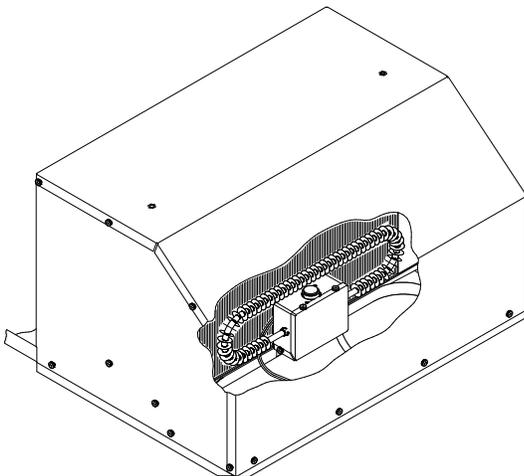
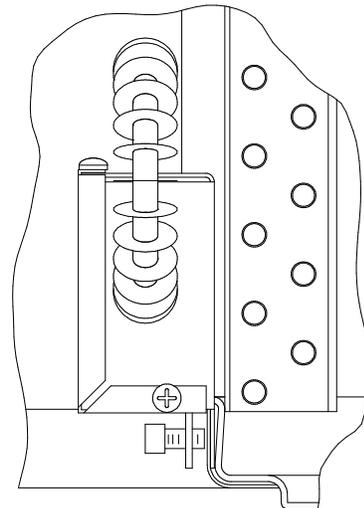

FIGURE 6
FIGURE 7
- A. If adding the electric heater to 48000 and 49000 series units, position the assembly in the upper unit return air opening as shown in Figure 6. The heater bracket must be installed over the metal basepan extrusion and positioned between the basepan and the plastic drain pan (See Figure 7). Tighten set screw to secure the assembly so as to prevent movement. 47000 series units will mount as shown in Figure 10 (see page 13) using wing nuts.